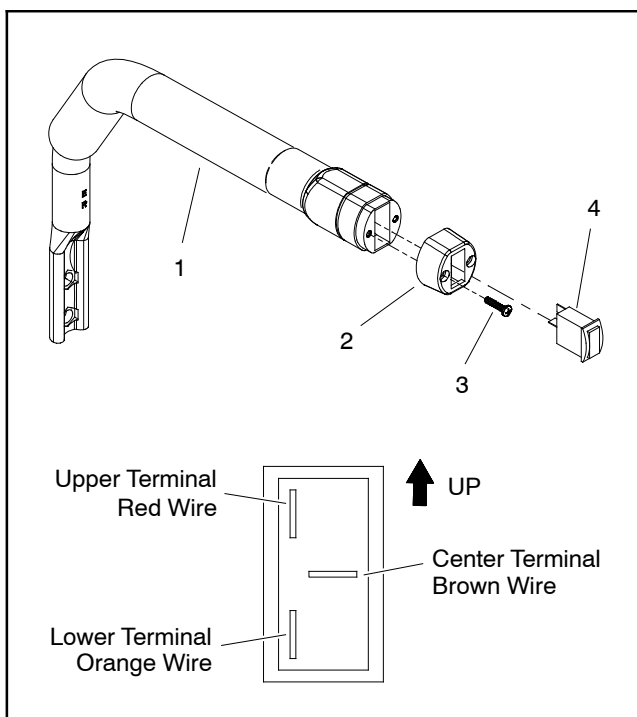

Figure 14
2. Move RH control handle out of the neutral position and remove two (2) screws that secure switch cap to right side motion control handle (Fig. 14). Carefully slide switch cap with rear attachment switch and attached wire harness from control handle.
9. Connect wire harness connectors to rear attachment switch after testing is complete. Make sure that harness wires are attached to the switch terminals as shown in Figure 14. The upper switch terminal should have the red wire connected to it for proper lift operation.
10. Carefully slide switch cap with rear attachment switch and attached wire harness into right side control handle and secure with two (2) screws.